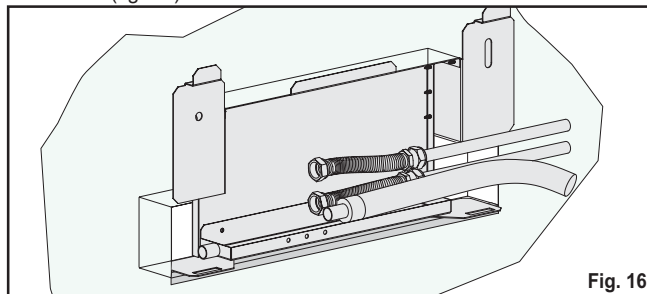

Fig. 16
- 6) Connect the hoses to the fan coil supply pipes and the condensate drain hose (fig. 16)